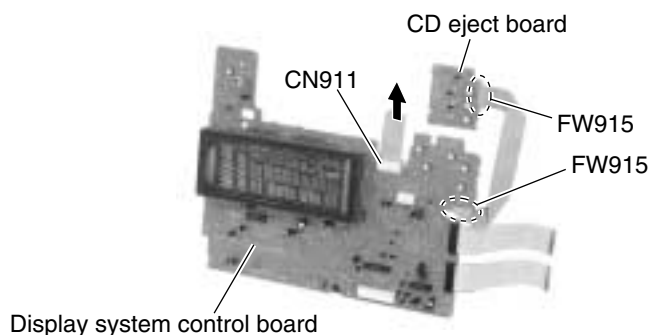

Fig.30
■ Removing the CD eject board (See Fig.30 and 31)